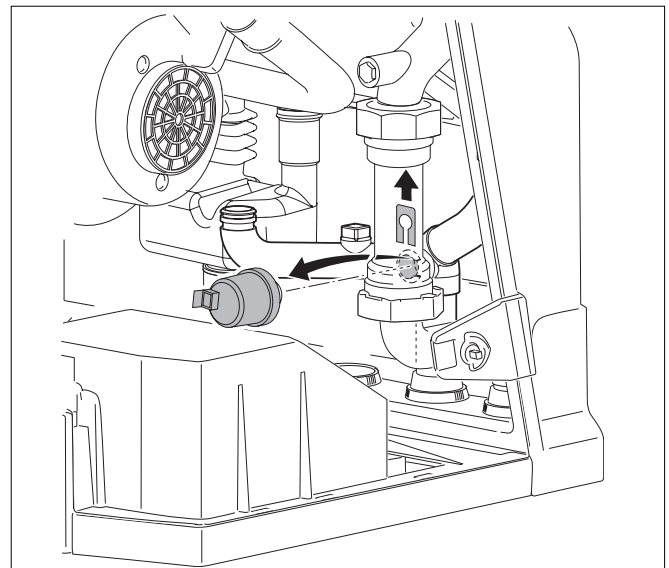

Fig. 114 Loosening the pressure sensor
- Loosen the pressure sensor by removing the securing clip (see fig. 114).